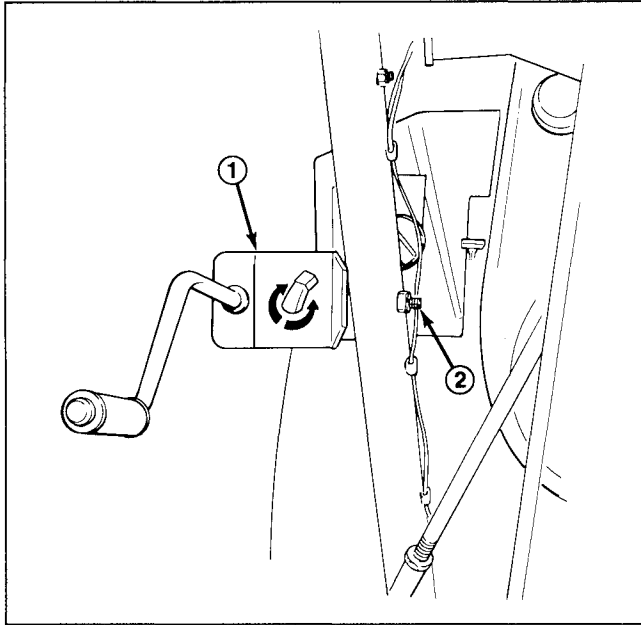
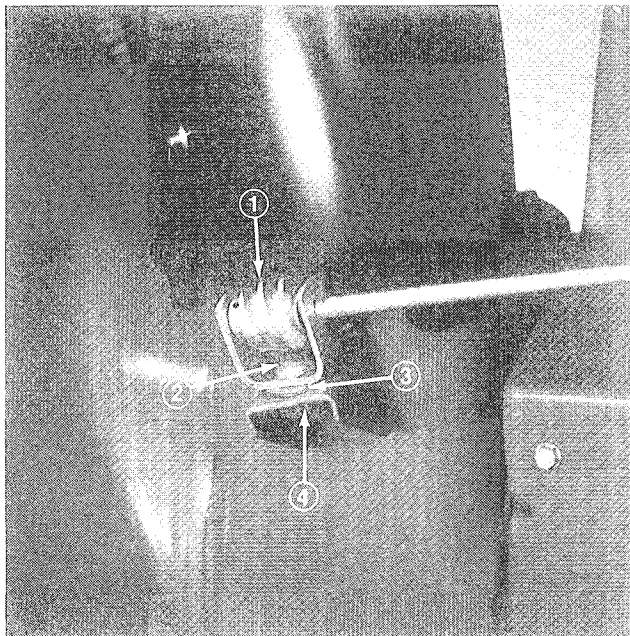

Figure 8
Figure 9
1. Install chute control bracket and rod against left side of handle with capscrew and locknut; but do not tighten the locknut (Fig. 8).
2. Apply general purpose grease to worm gear. Next, mount worm bracket and gear on top of mounting flange with carriage bolt, pyramidal washer, flat washer and cone locknut (Fig. 9). Do not tighten locknut.
3. Push worm firmly against teeth in retaining ring; then tighten locknut (Fig. 9). Also tighten locknut holding chute control bracket against left handle (Fig. 8). Check operation by rotating chute control. Repeat if necessary.